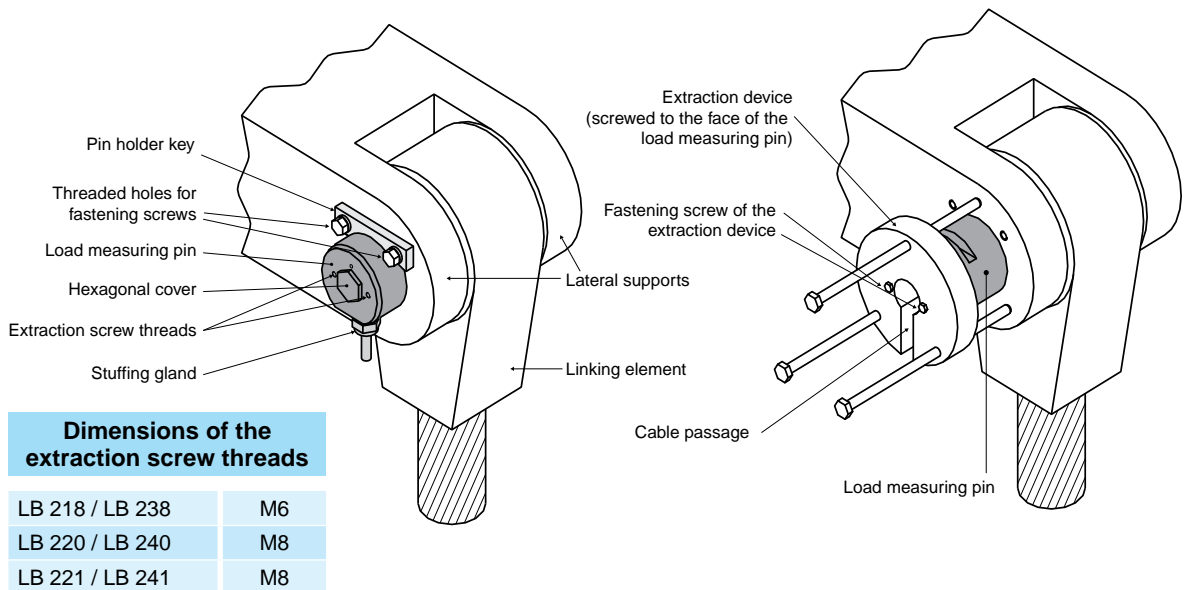
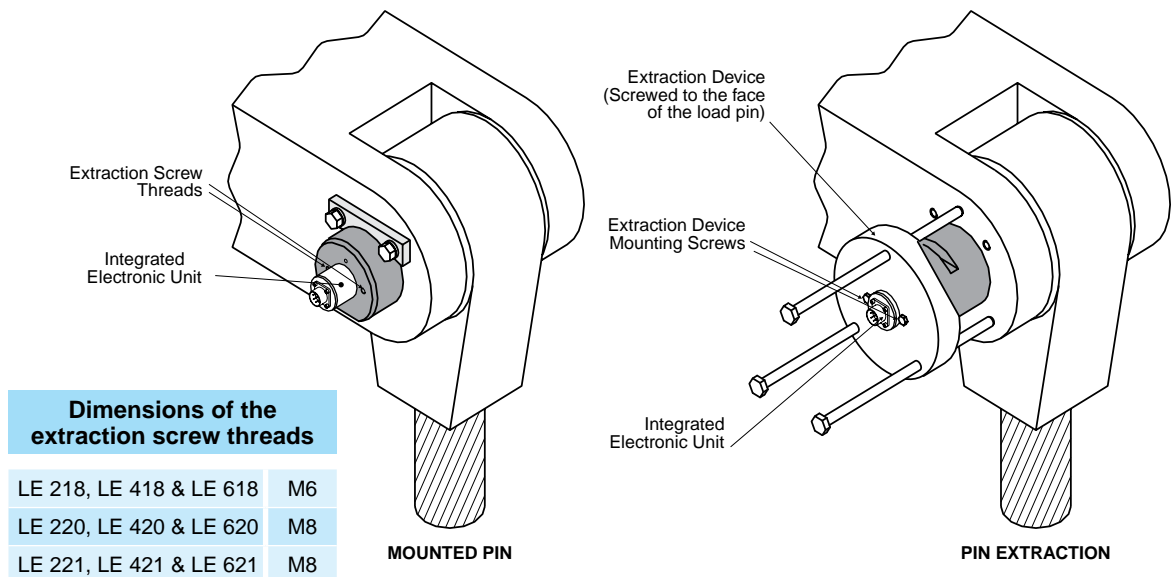

Fig.2-5 Pulling out a LB Series Load Measuring Pin by means of an extraction device
Fig.2-6 Pulling out a load measuring pin by means of an extraction device (principle used with LE 218, LE 418 and 618, LE 221, LE 421 and 621 Series Load Pins)
8. Load measuring pins LB/LE 218 - 221, LB 238 - 241, LE 418 - 421 and LE 618 - 621 are fitted with two extraction screw threads at each end (see Fig.2-5 & Fig.2-6) which should be used to fix the extraction device.
Use this thread to fix an extraction device (not provided by MAGTROL, see Fig.2-5). We recommend fixing it on the same side as the stuffing gland (LB 210, LE 4XX and LE 6XX series load pins with integrated cable) or the electric connector (LB 230, LE 2XX, LE 4XX and LE 6XX series load pin with connector) to avoid their damage if the pin is pulled out on the opposite end (see Fig.2-5).